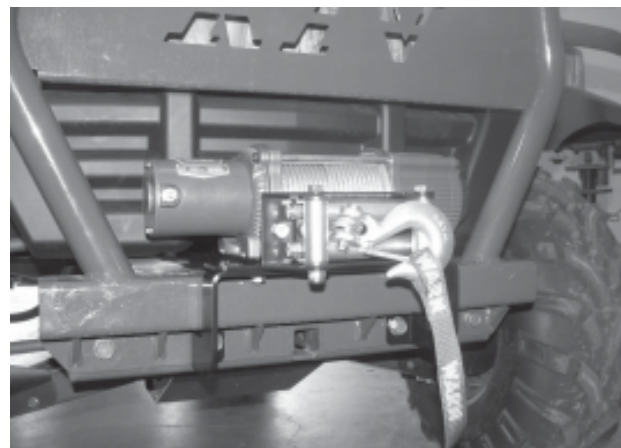

Figure 6
5. Slide the mounting plate and winch into position, resting on the mounting bracket, Figure 6.